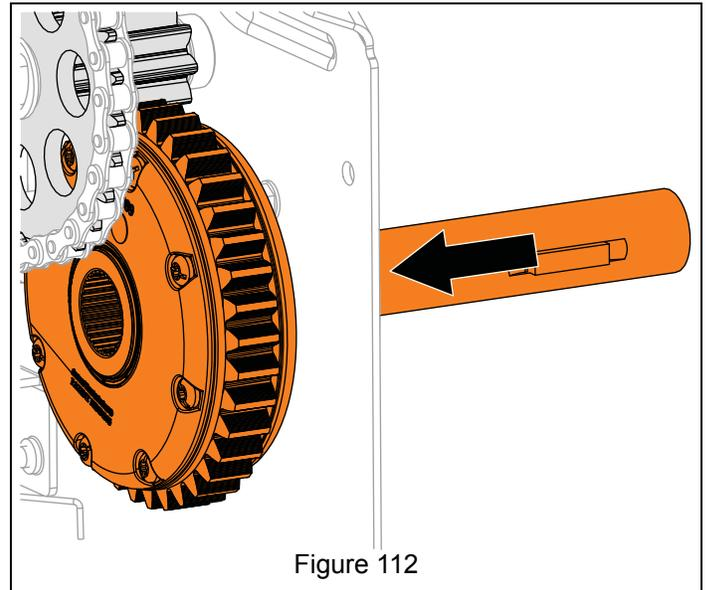

Figure 112
3. Align differential gear with pinion gear and short axle. Reinstall short axle into differential. See Figure 112.